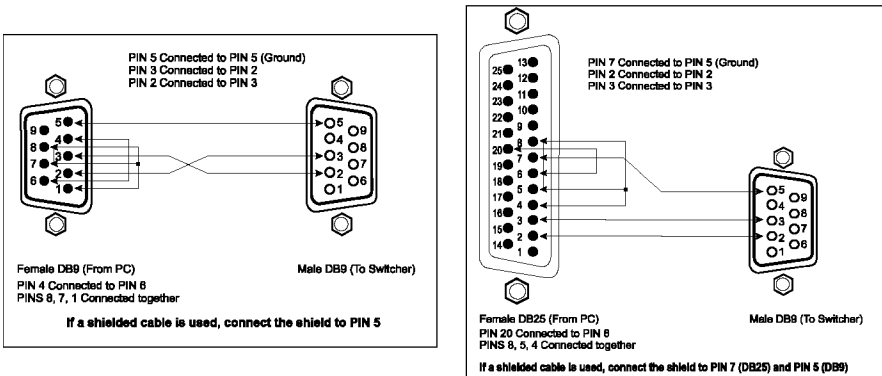

Figure 2: Connecting a PC without using a Null-modem Adapter
- Connect the RS-232 DB9 port on your PC to the “To PC” RS-232 DB9 rear panel port on the **VS-1604YC** unit, as Figure 2 illustrates² (depending on whether the PC has a 9-pin or 25-pin connector)